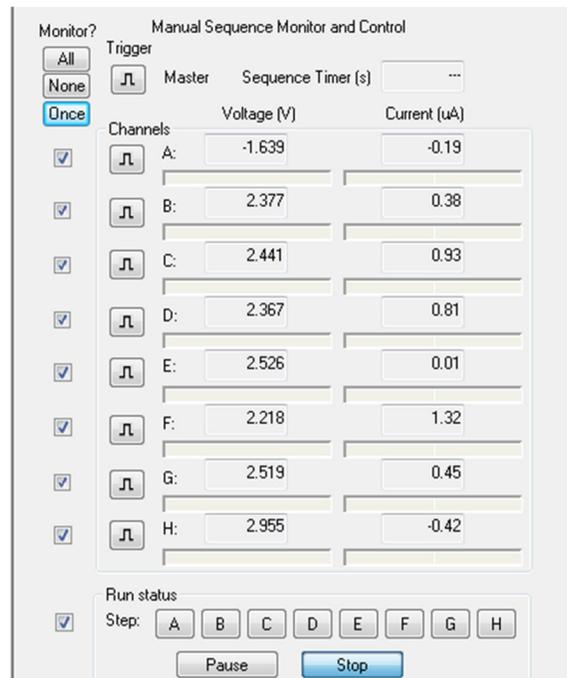

Figure 8. Manual Sequence Monitor and Control window
6. Press **A** at the bottom of the Sequencer Control Panel to run Step A, etc. If you selected timed events or triggers, then the automated sequence you created will take over. If not, and you selected “manual” to switch between steps in the Sequence Wizard, click the  **Sequencer** icon in the left pane. The **Manual Sequence Monitor and Control** (*Figure 8*) will open in the right pane.